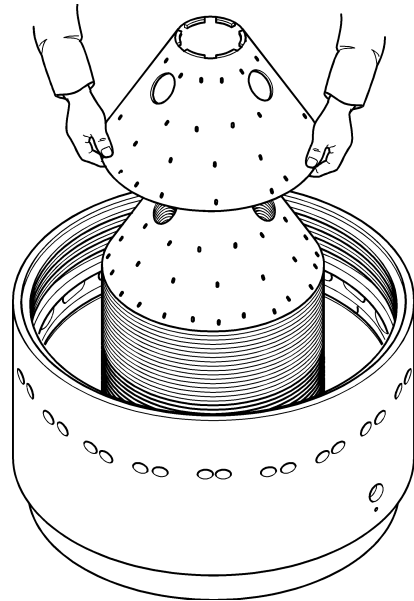

Figure 6.10
- 8) Insert the **disks** (fig. 6.10). The disks can be inserted in the distributor only in one way. Over the distributor is marked a big “O” that must be aligned with “O” marks of the bowl body and moving ram, and a small “o” which indicates the angular position of disks insertion. The disk must be inserted in such a way that the small slot made on the internal upper edge glides on the distributor fin marked with the small “o”.